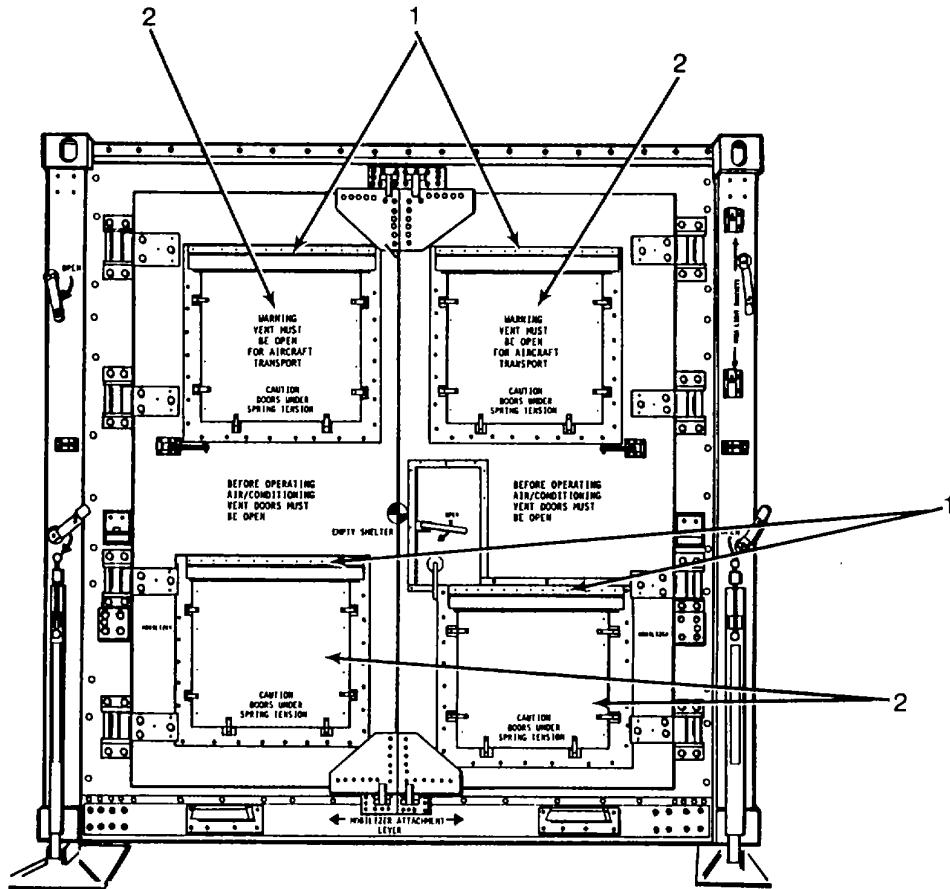

Figure 3-2. Cargo Doors AC Vent Assemblies
3-4. CARGO DOORS AC VENT ASSEMBLIES. Refer to figure 3-2. Lubricate hinges (1) on cargo doors AC vent assemblies (2) with lubricant (Appendix E, item 22). Wipe off excess lubricant.